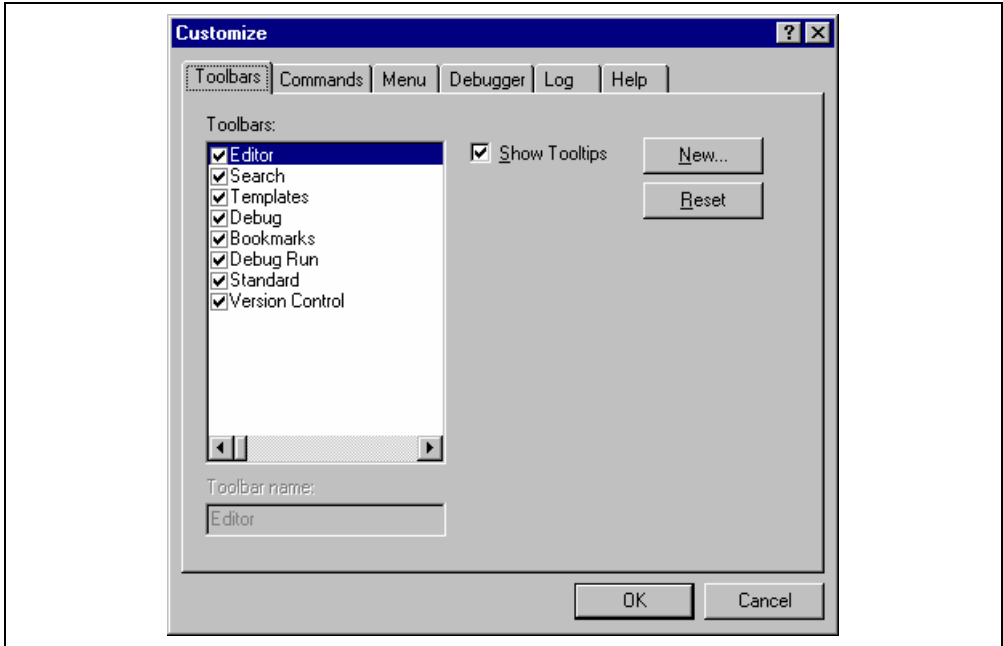
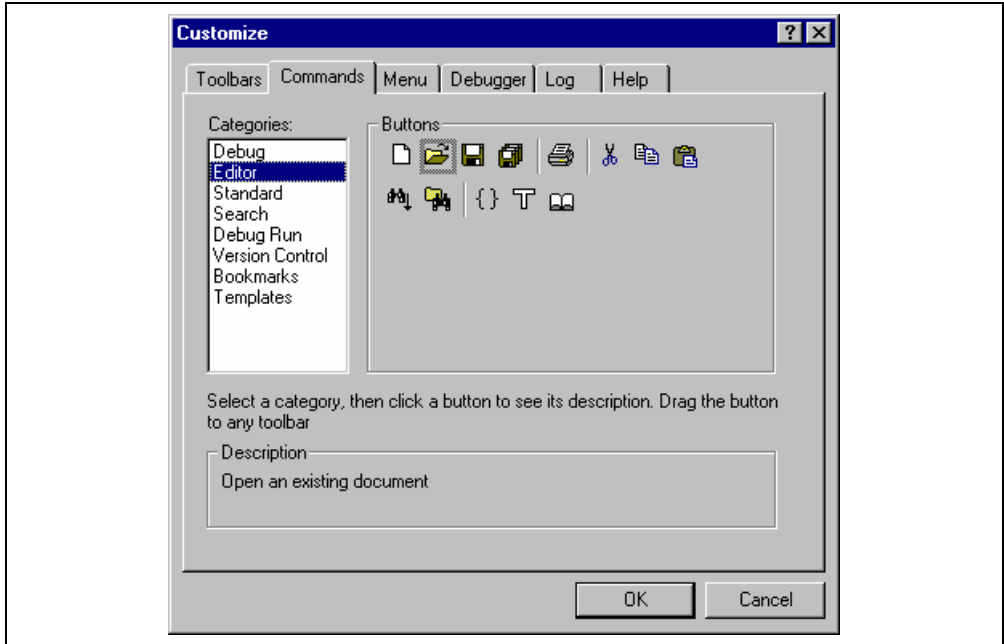
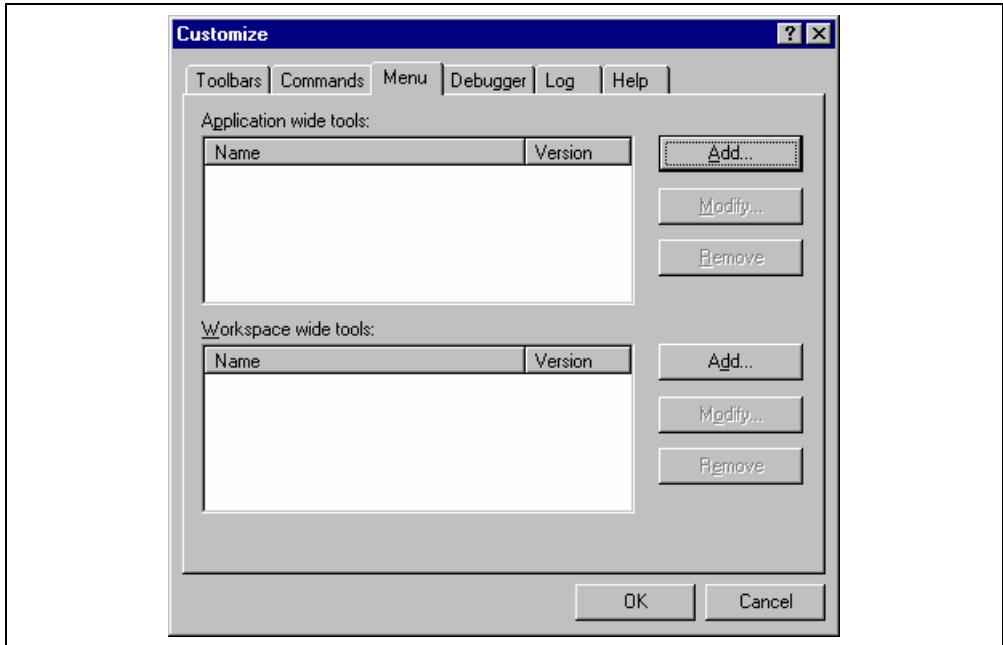
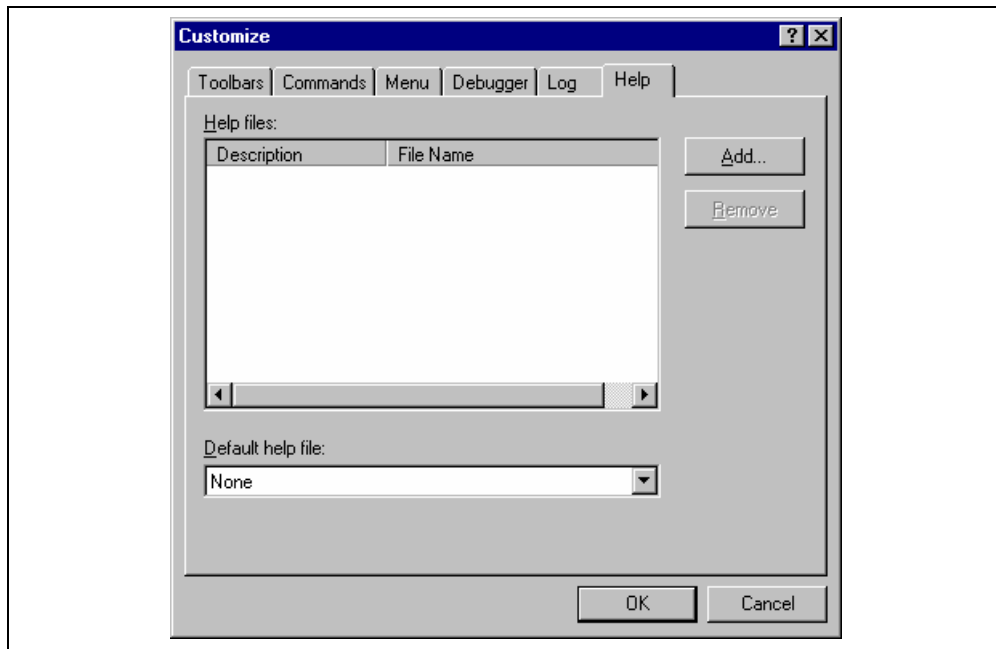

Figure 6.1: Customize Dialog Toolbars Tab
Figure 6.3: Customize Dialog Commands Tab
Figure 6.4: Customize Dialog Menu Tab
Figure 6.7: Customize Dialog Help Tab
The High-performance Embedded Workshop provides 2 standard toolbars as detailed in chapter 1, “*Overview*”. In addition to these, you may also construct your own toolbars via the “Customize” dialog (figure 6.1).
1. Select [**Tools->Customize...**]. The dialog shown in figure 6.1 will be displayed.
1. Select [Tools->Customize...]. The dialog shown in figure 6.1 will be displayed. Select the “Commands” tab (see figure 6.3).
1. Select [**Tools->Customize...**]. The dialog shown in figure 6.1 will be displayed. Select the “Commands” tab (see figure 6.3).
2. Select the user-defined toolbar from the “Toolbars” list, and the “Reset” button in figure 6.1 changes to the “Delete” button. Then click the “Delete” button.
1. Select [**Tools->Customize...**]. The dialog shown in figure 6.1 will be displayed. Select the “Menu” tab (see figure 6.4). The first thing for you to decide is whether you are adding a global application wide tool (“Application wide tools:”), which will be available to all of your workspaces. Or whether you wish to add a workspace wide tool (“Workspace wide tool:”), which is only valid for the current workspace. Once you have made the choice choose the relevant section of the dialog.
1. Select [Tools->Customize...]. The dialog shown in figure 6.1 will be displayed. Select the “Menu” tab (see figure 6.4).
1. Select [**Tools->Customize...**]. The dialog shown in figure 6.1 will be displayed. Select the “Help” tab (see figure 6.7).